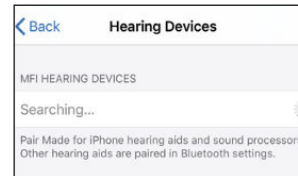

Figure 1. Searching for hearing aids
- 3 Ensure Bluetooth is enabled. The Apple device will start searching for your hearing aids (Fig.1).